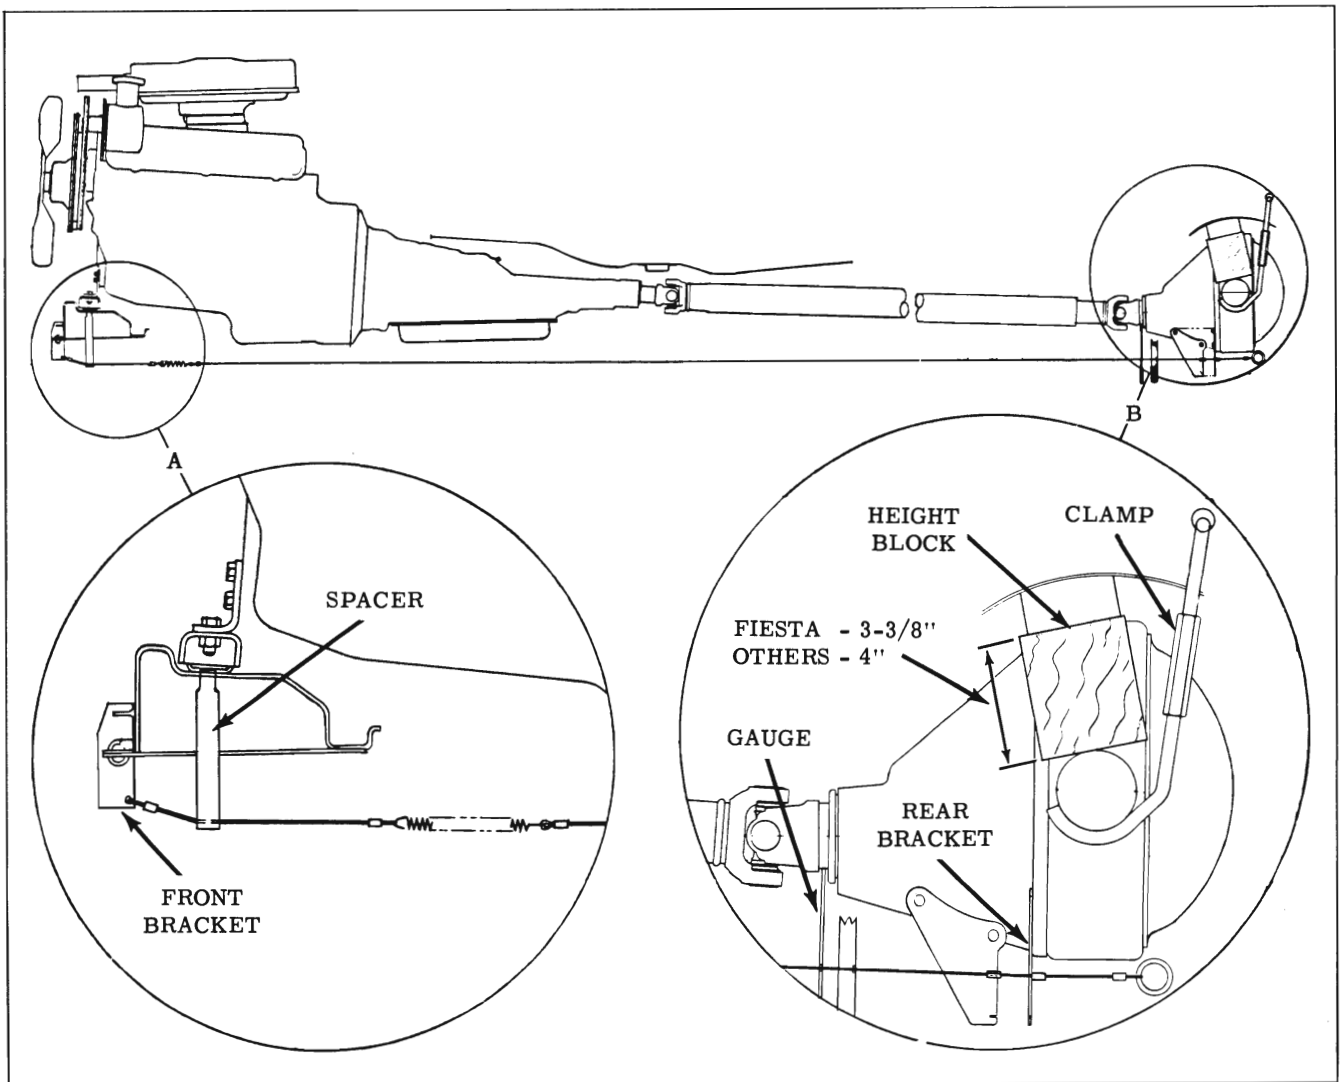

Fig. 6-47 Checking Differential Nose Angle
### CHECKING AND ADJUSTING DIFFERENTIAL NOSE ANGLE (USING TOOL BT-30-1 AND BT-30-2) (FIG. 6-47)
1. Connect cable at front frame cross member. (Fig. 6-47, Inset "A")
2. Install rear bracket on the two lower right studs on differential carrier. (Fig. 6-47, Inset "B")
4. Install wooden blocks between rear axle housing and rubber bumpers. Refer to directions on blocks. Install hold down clamps around axle housing (the lower hook end should point toward front of car). Install upper hook into the 3/4" hole in frame immediately above axle housing. (Fig. 6-47, inset "B") Adjust turn buckles on clamps until wooden blocks fit snugly between axle housing and rubber bumpers. It may be necessary to lift up on the car to install the wooden blocks.
5. Position gauge as shown in Fig. 6-47 and check differential nose angle alignment.